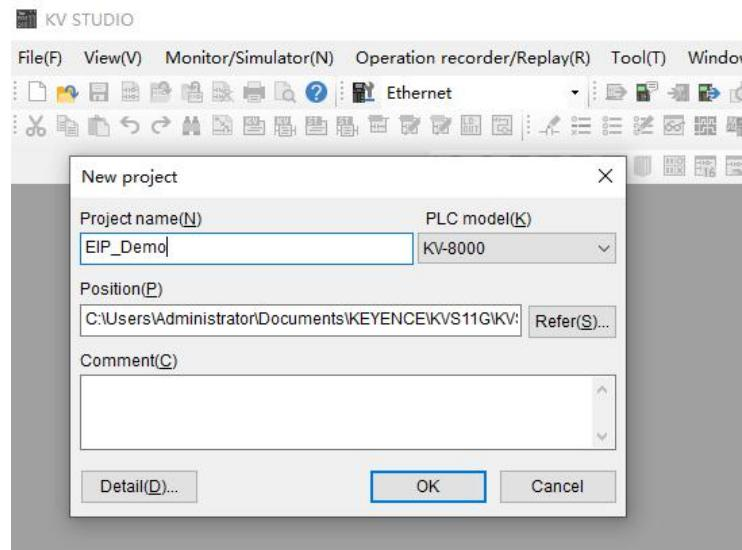

Figure 4-4
- As shown in Figure 4-4, the New Project dialog box pops up. Fill in the project name and storage path.